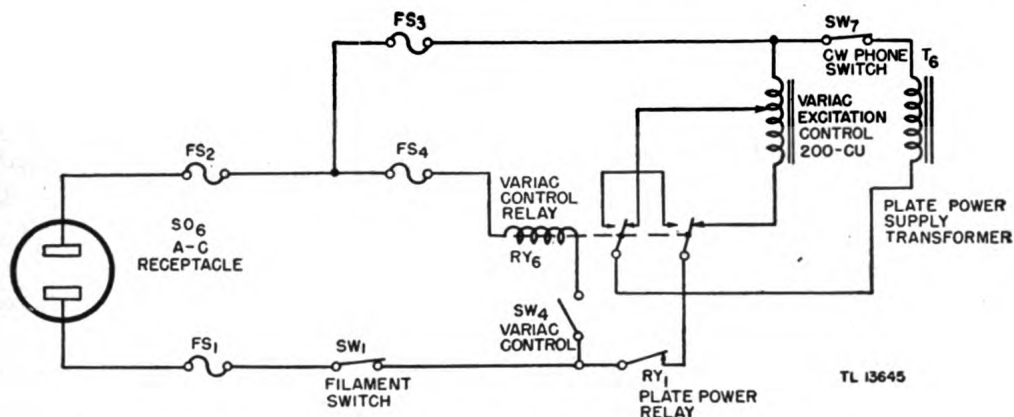

Figure 29. Radio Transmitter T-62()/MRC-1—variac control circuit.
b. **HIGH-VOLTAGE CONTROL** (fig. 29). To control the output of Radio Transmitter T-62()/MRC-1 to provide the correct excitation to the power amplifier, a VARIAC has been placed in the primary circuit of plate supply transformer T_a. This variac is used when tuning and on high-power c-w operation *only*. On voice or low-power c-w operation, the VARIAC is removed from the circuit by placing the VARIAC CONTROL switch in NORMAL position. This switch controls relay RY₆ which, when energized, connects the primary of T_a directly to the a-c power source without passing through the VARIAC.